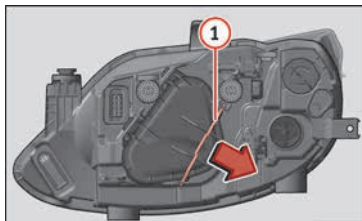

Fig. 94 Single headlight.
- Move the loop » **Fig. 94** ① in the direction of the arrow and remove the cover.